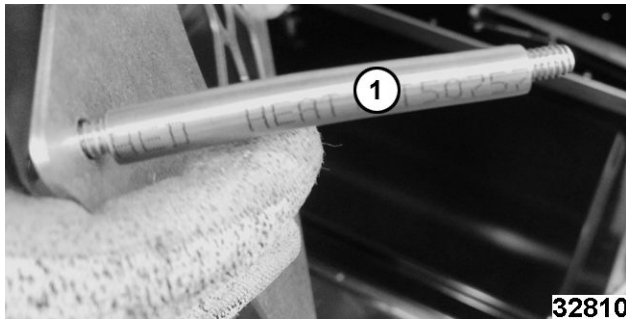

Fig. 86
**NOTE:** Set fan guard screw spacers (1, Fig. 86) aside.